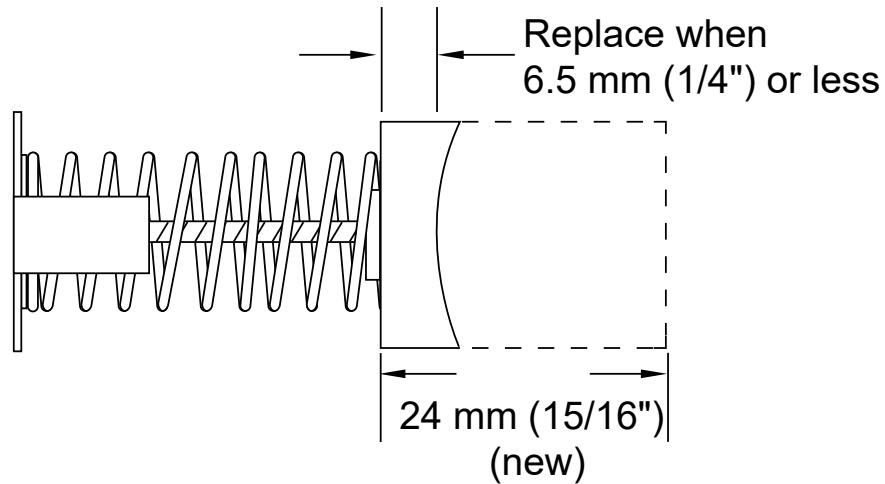

Figure 9.
- C. The brush assemblies must be replaced if they are 6.5 mm (1/4") long or less. See Figure 9.